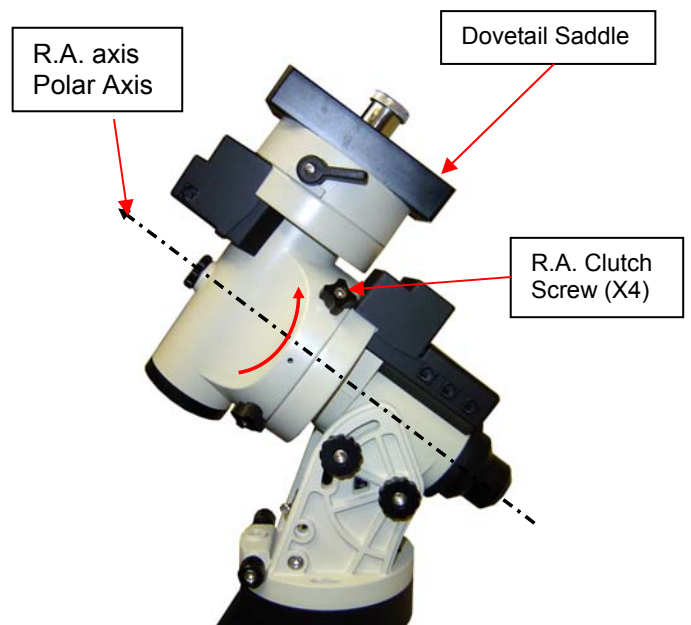
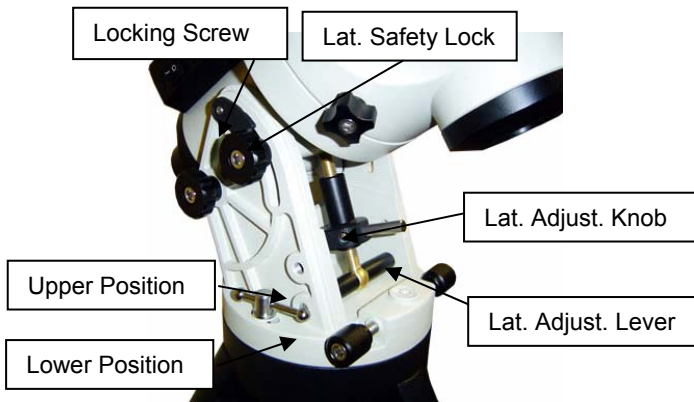

Figure 10
Figure 11
3. **Set the Latitude:** Unlock the four R.A. Clutch Screws and rotate the mount 180° around the R.A. axis (**Figure 10**) to move the dovetail face upside. Tighten the R.A. Clutch Screws. Un-screw the Altitude Adjustment Lever from Altitude Adjustment Knob (**Figure 11**). Turn the Latitude Adjustment Knob to set your current Latitude, which is displayed in Latitude Mark Window. Use the Lever for fine adjustments as needed. Always set the latitude without the load.
If your latitude is between 5° to 40°, set the Latitude Adjustment Knob to the lower position. A Latitude Safety Block has to be installed (**Figure 11**)